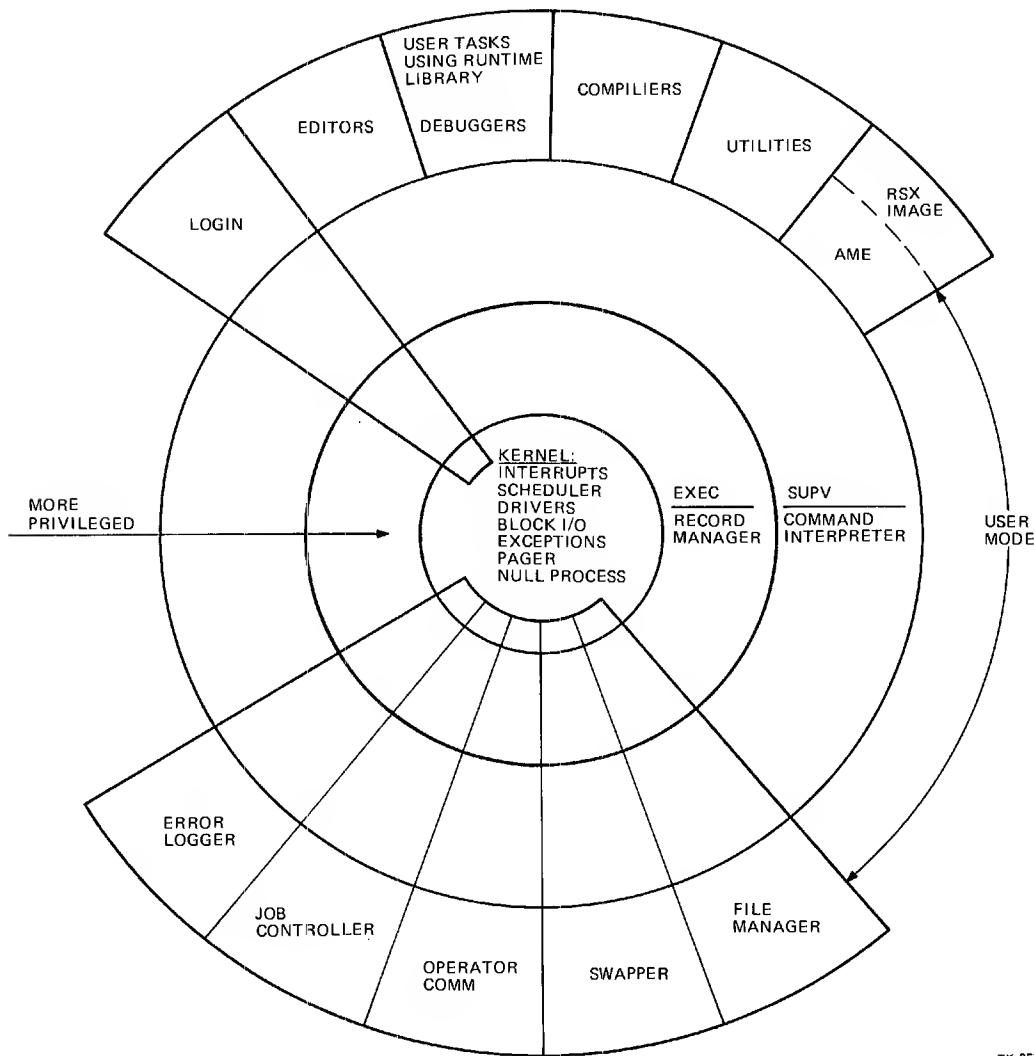

Figure 1-8 VAX's Use of Hierarchical Access Modes
1.5.4.4 Protection – Four hierarchical access modes provide protection for the system (Figure 1-8). These modes, from most to least privileged, are: kernel, executive, supervisor, and user.